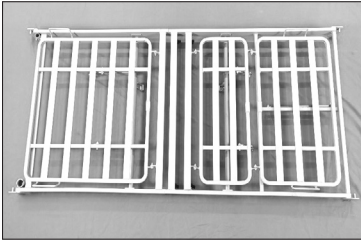
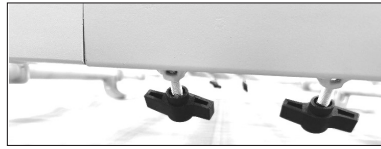

Fig. 3
Fig. 3a
2. Join the headrest frame with the leg frame by pushing the frame all the way down and tighten the 4 locking knobs (Fig. 3)(Fig. 3a)